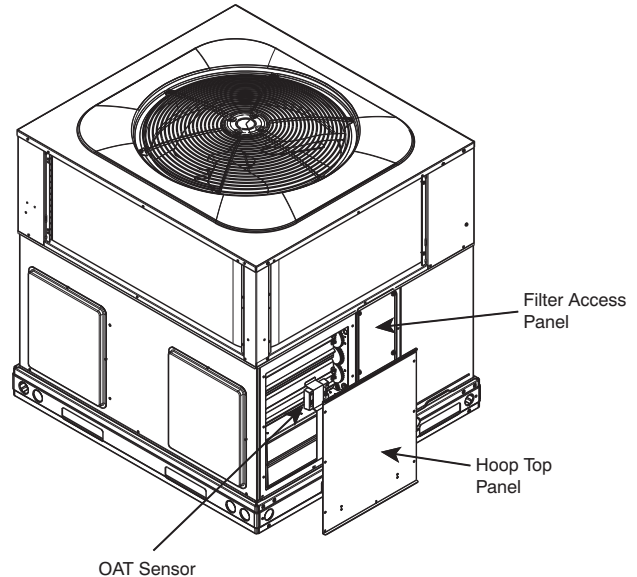

Fig. 30 - Economizer Hood Top Panel Removal
2. Remove economizer hood top panel from the return side of the unit. See Fig. 30. Keep screws and panel next to the unit.